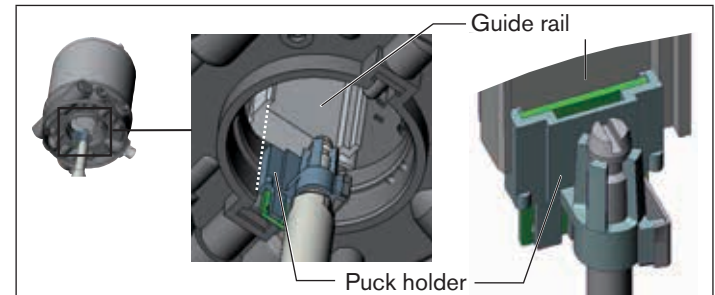

Fig. 5: *Aligning the puck holder*
2. the supports of the control unit can be inserted into the pilot air ports of the actuator (see “Fig. 5”).